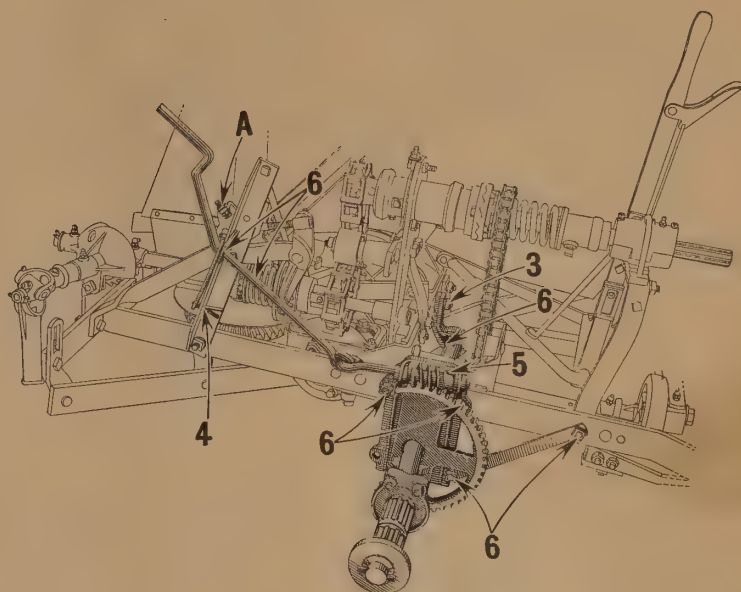

Fig. 11
3. (Fig. 11.) Remove inner support bracket for R. H. main wheel axle and rebolt to main frame middle cross sill in position with loop down as shown.
4. (Fig. 11.) Remove link for raising crank from support post and recotter to post in lower position as shown.
5. (Fig. 11.) Remove pin which secures worn gear to raising crank. Slide crank to rear and replace pin in worm gear and in front hole in crank as shown.
6. (Fig. 11.) Slide raising crank into strap and link on raising crank support post. Fit R. H. wheel axle into inner support bracket and bolt outer support bracket for R. H. wheel to main frame support sill as shown. Attach flat brace for outer support bracket to **inside** of support bracket and to **outside** of frame sill as shown.